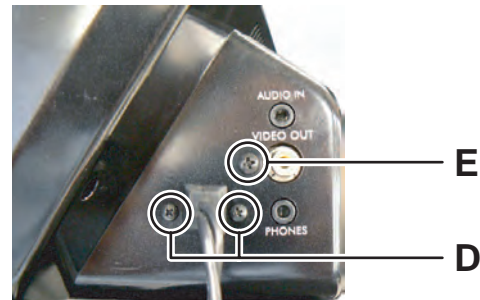

Fig.6
3.1.3 Removing the AC adapter (See Fig.6)
- (1) Remove the two screws **D** attaching the AC adapter.
3.1.4 Removing the Jack board (See Fig.6)